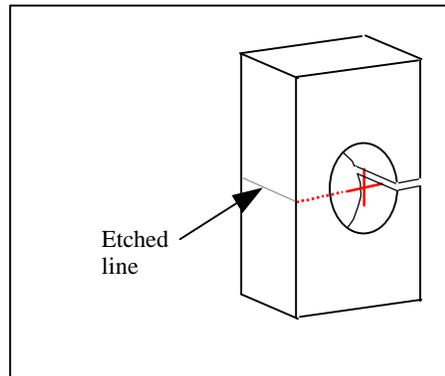

Figure 3 –
1. Using the awl, lightly etch a line across the side of the load cell body at the exact height of the hole centre, as shown in Figure 3.